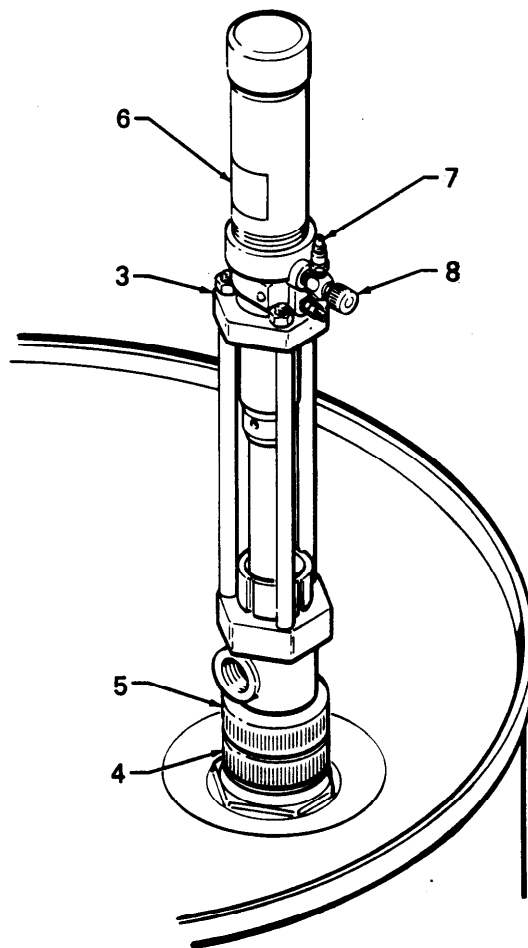

Fig 1
Reference numbers in parentheses in the text refer to the parts shown in the Typical Installation drawing, Figures 1 thru 27, and/or the Parts Drawings.
3. Install the 1:1 ratio feed pumps (3) in 55 gallon drums of ISO and RES.
- a. Screw the bung adapter (4) and pump tightly into the drum cover. Then tighten the nut (5) firmly to complete the airtight seal. See Fig 1.
- b. Separate the two halves of the ISO/RES identification label (6) along the perforation. Clean the surface of the air motor with solvent and apply the appropriate label (RES or ISO) to identify the chemical being pumped. See Fig 1.
- c. We recommend installing an air regulator near the feed pump air inlet to control pump speed. To install, remove the air valve (8) and use suitable adapters and thread sealer on male threads to install the regulator and pin fitting.
4. Mount the Air Dryer (9) in a suitable location near the ISO and RES drums. See the Typical Installation on page 4. Refer to the mounting hole diagram in manual 307-548.